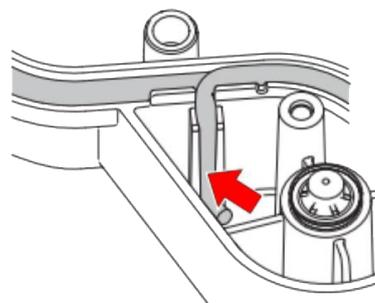

Figure 7
5. Place the second end of the sealing strip over the first end and then route it out the duct. Attach the sealing strip to the bottom using the holder. Indicated by the arrow in Figure 7.